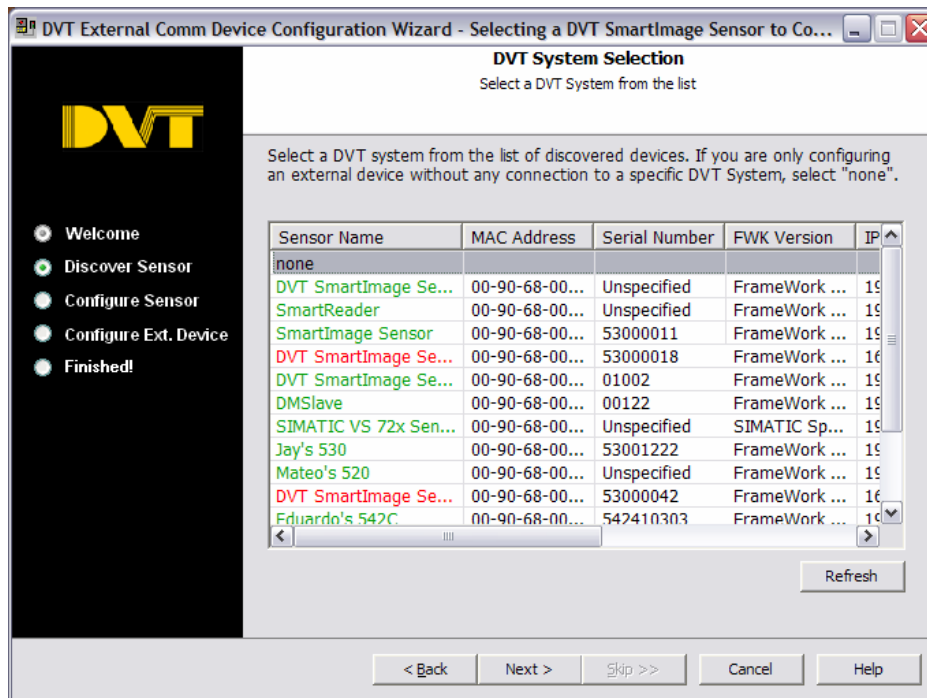

Fig. 5
- The next screen contains a list of cameras you can configure to communicate to the I/O Module. See Fig. 5.